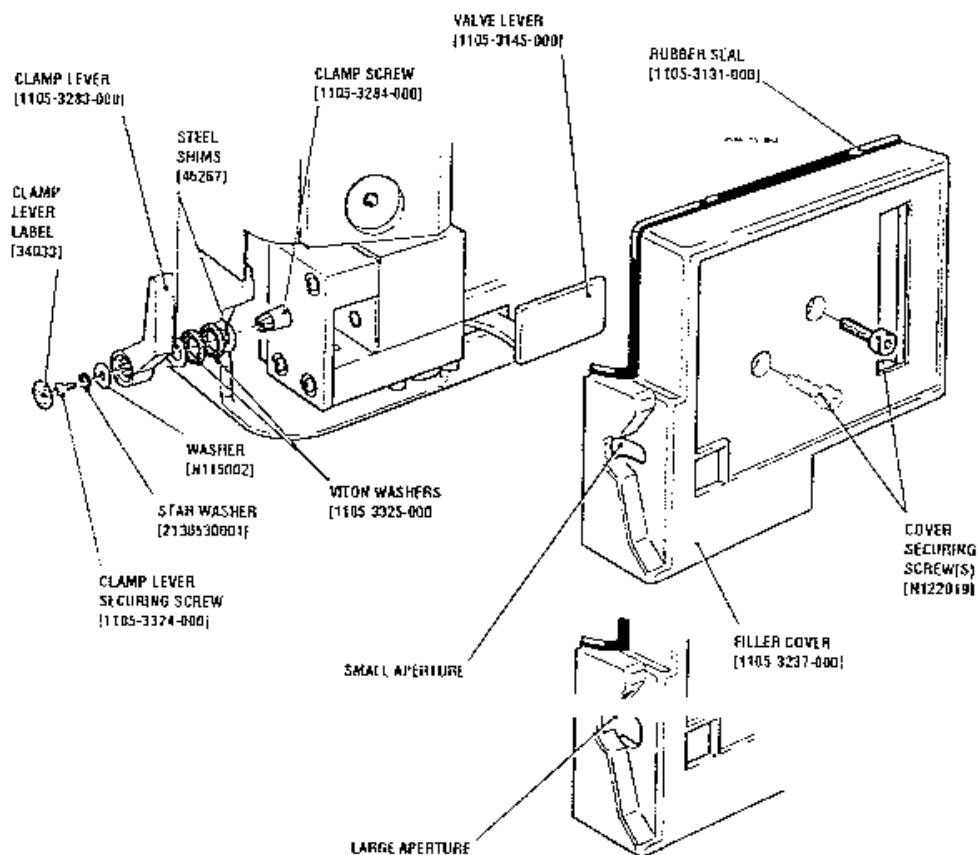

Fig. 8.4 Fitting The Keyed Filler Cover And Clamp Lever
4. Ensure that the filler cover incorporates a small aperture to accommodate the clamping assembly, as illustrated on Fig. 8.4.
5. Position the filler cover assembly complete with rubber seal over the keyed filler assembly as illustrated on Fig. 8.4. Fit the one or two securing screws and torque tighten to 1.0 Nm using tool Part No. 2802-8052-000.